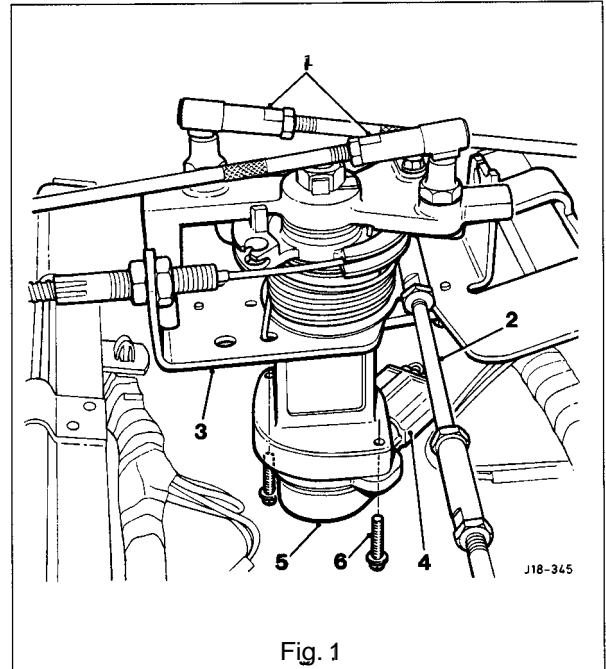

Fig. 1
- Undo and remove the TP sensor securing screws. Remove the TP sensor (5 Fig. 1).